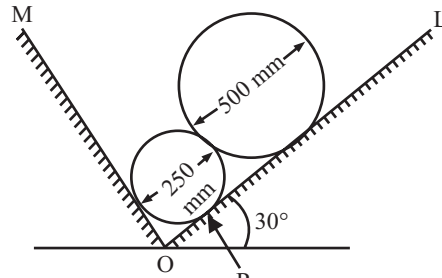

Fig 6
- Q.6.** Two steel cylinders are supported in a right angled wedge support as shown in Fig. 6. The side OL makes an angle of 30° with the horizontal. The diameters of the cylinders are 250 mm and 500 mm; their weights being 100 and 400 N respectively. Determine the reaction R between the smaller cylinder and the side OL. [Ans. 157 N]